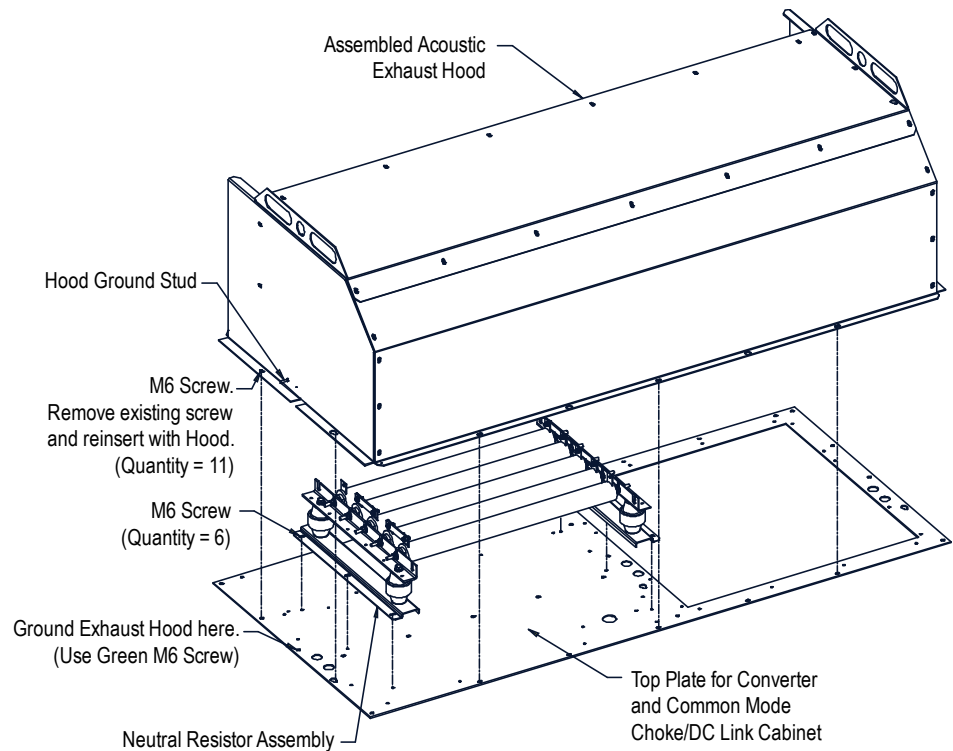

Figure 2.7 – Acoustic Hood Assembly for Neutral Resistor
1. Locate the resistor assembly on top of the cabinet as shown in Figure 2.6. (For acoustic hood assembly, refer to Figure 2.7.)